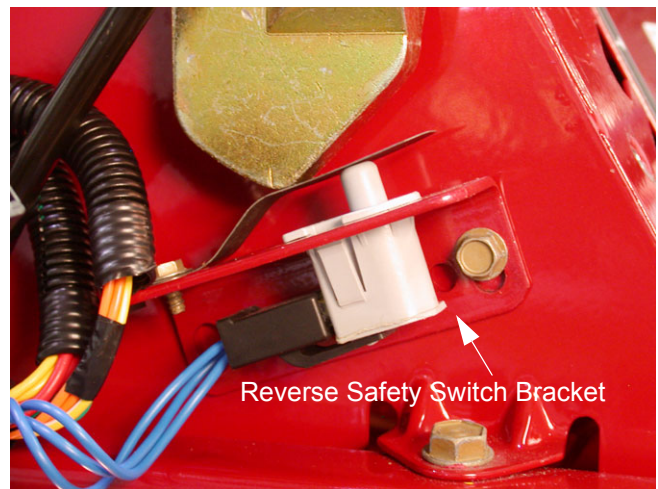

Figure 10.14
10.14. If the reverse safety switch adjustment is not correct, loosen the reverse safety switch bracket using a 3/8" wrench. Pivot the bracket and switch to a position that results in correct operation, then tighten the bracket. See Figure 10.14.